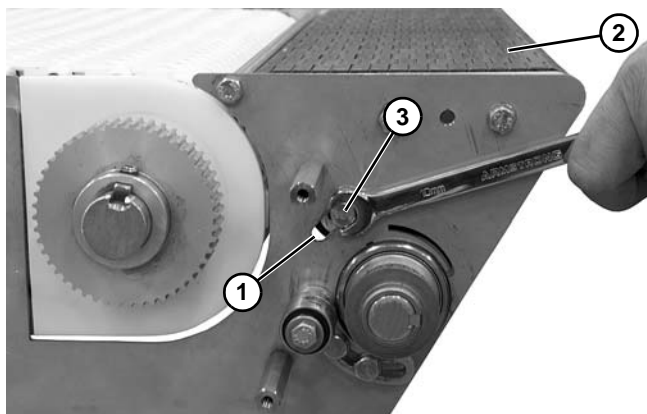

Figure 80
10. Slide idler assembly within slot (**Figure 80, item 1**) to remove excess slack from belt (**Figure 80, item 2**). Tighten hex head screws (**Figure 80, item 3**).